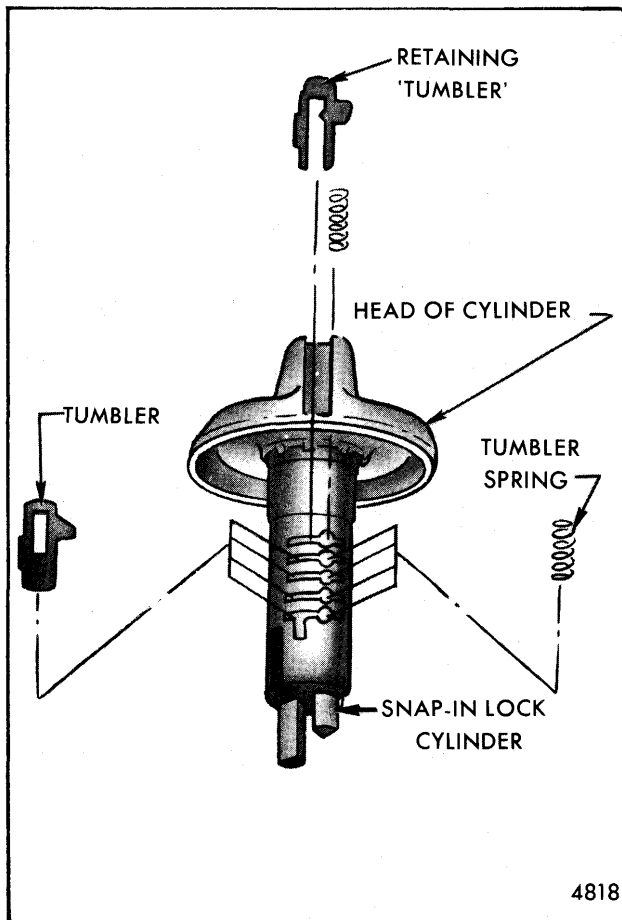

Fig. 1-5-Installing Tumblers
2. Starting at open end (head) of cylinder, insert tumbler spring and retainer "tumbler" in first position, then proceed to insert tumbler springs and tumblers in their proper slots in the order previously determined by code, as shown in Figure 1-5.